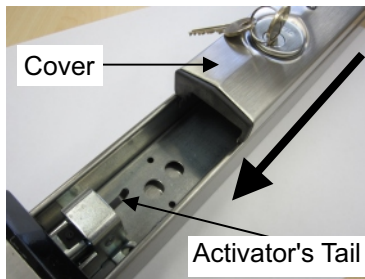
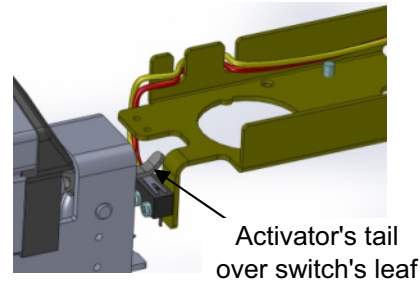

Figure 11
Figure 12
Take the alarm cover (60-7700-0984-xxx) as completed in section 'B' and slide it into the rail as shown in Figure 11. Make sure the activator's tail slide over the alarm switch (Fig.12).
- b. Tamper switch (Fig. 14-a) may not be closing when alarm end cover is installed. Make sure the leaf is being depressed by the mechanism frame as shown on Figure 12.